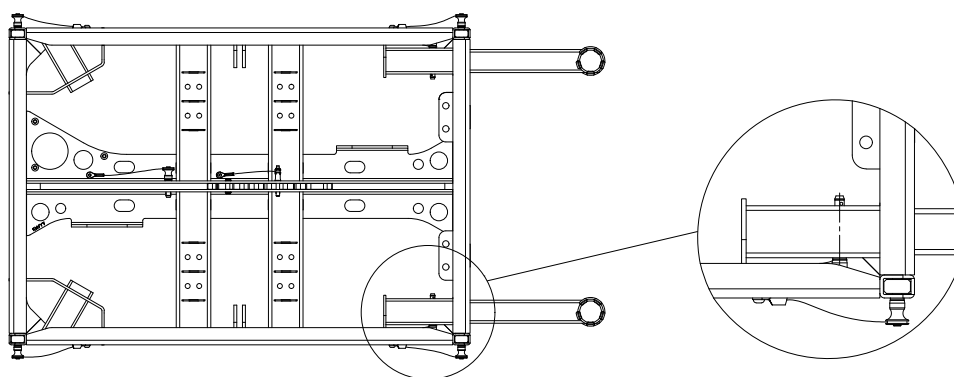

Figure 4.3.3 – Rear-mounting the VERA ORF900 outrigger on the VERA RF600
3. Always insert all quick-locking pins completely through all square tubes (see Figure 4.3.3 right).